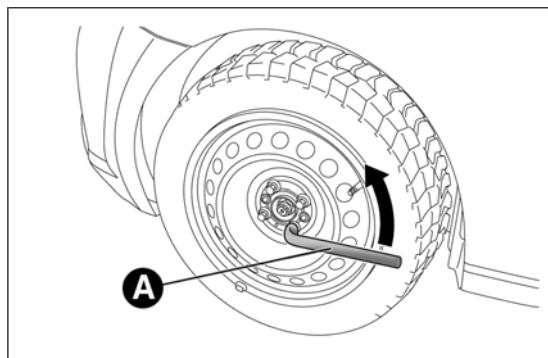
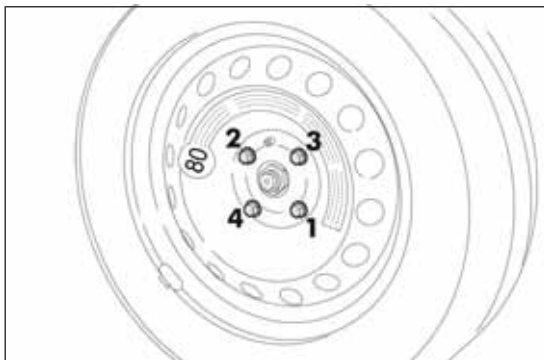

fig. 117
fig. 120
- ☐ take wrench A fig. 117 and loosen the fixing bolts by about one turn;
- ☐ take the wrench A fig. 117 and fully tighten the fixing bolts;
- ☐ use the wrench A fig. 117 provided to fully tighten the bolts in a criss-cross fashion as per the numerical sequence illustrated in fig. 120;
- ☐ tighten the retaining bolts using wrench A fig. 117;
- ☐ use wrench A fig. 117 to fully tighten the bolts, following the sequence illustrated in